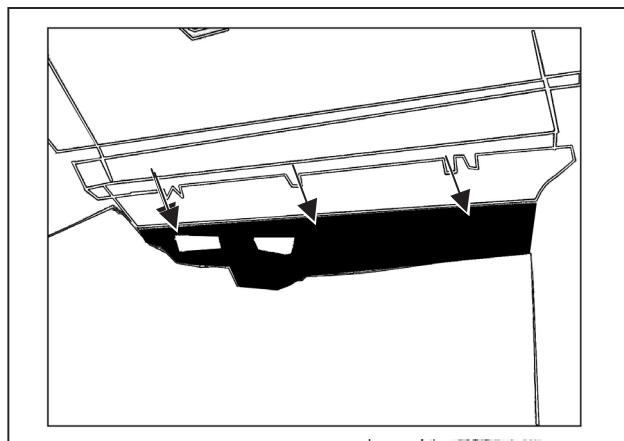

Figure B2
- 2. Remove under dash cover by pressing on the indented areas (3 places) as indicated in Figure B2 and then pulling in a downward motion.